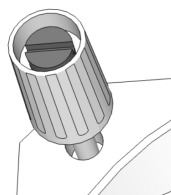

Figure 2. Step 3
3. Unscrew the flat headed screws from within the push-rotary knob while holding the push/rotary knob still by its black plastic (see figure 2).